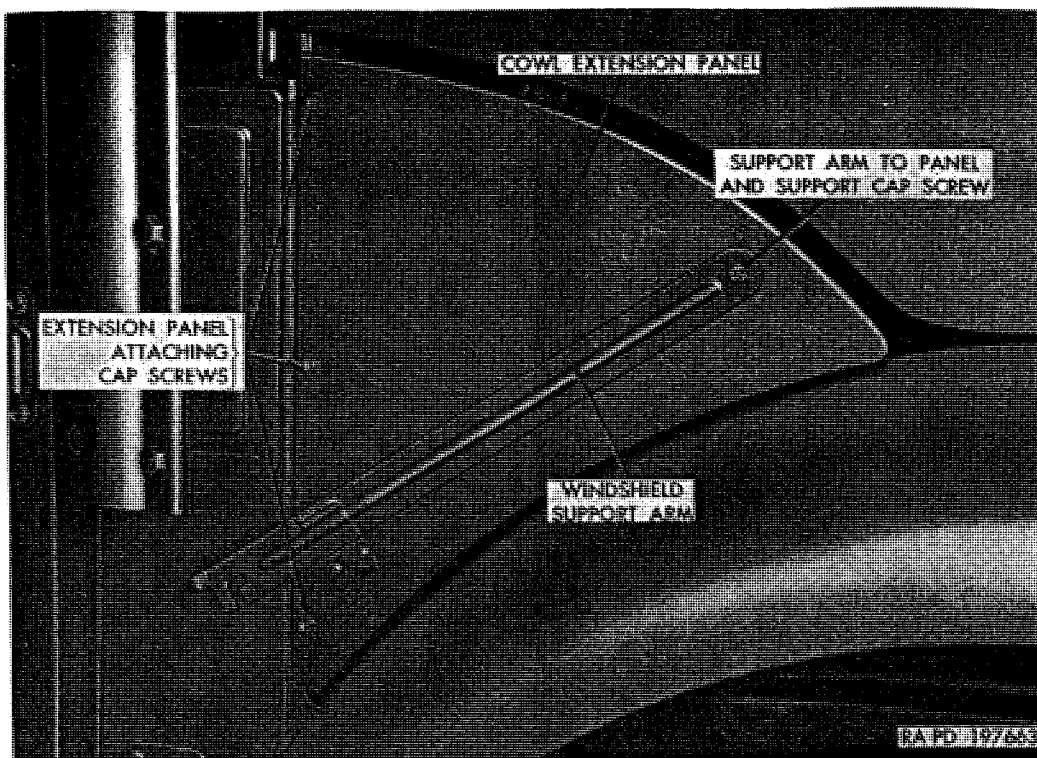

Figure 330. Right cowl extension panel installed.
d. Cowl Extension Panel Replacement (fig. 330). Replacement procedures are same for either left or right panel.